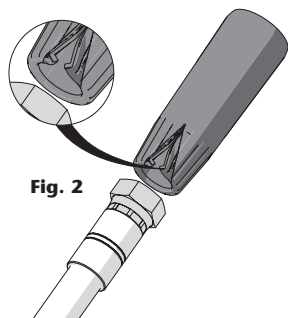

Fig. 2
- Depending on the type of terminal hose may be necessary to open the end of the swivel cover to allow its passage through the hose. The swivel cover has a slot at its end for easy opening (fig. 2).